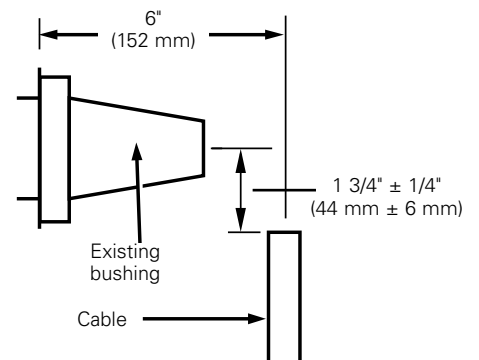

Figure 14. Line illustration for cable training.
- Cut cable 1 3/4" (44 mm) from centerline of bushing. Refer to Figure 14.